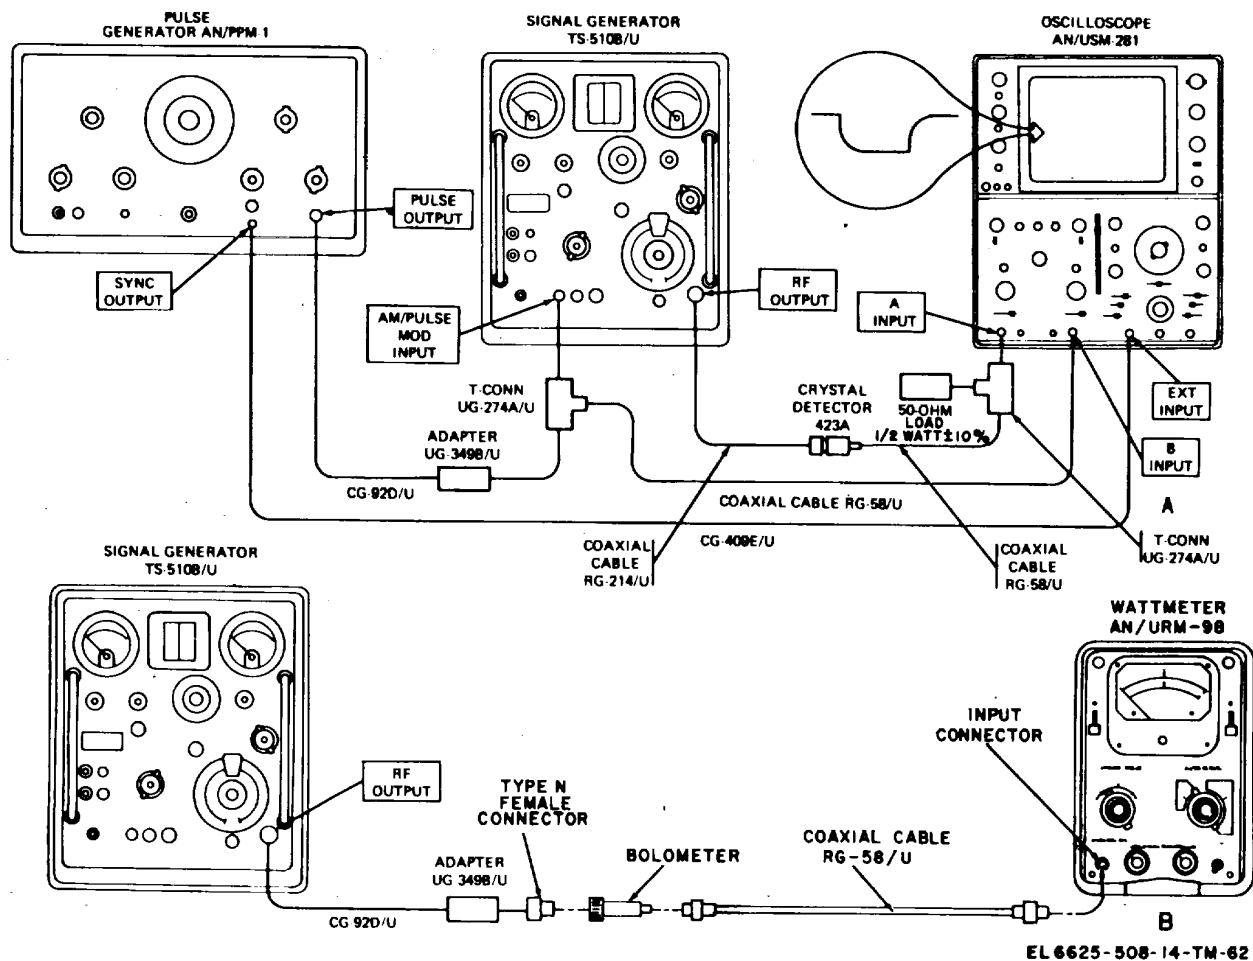

Figure 6-33. External pulse modulation and residual level test connection.
- (2) Oscilloscope AN/USM-281A
- (3) Crystal Detector 423A
- (4) BNCT Connector UG -274A/U (2 each)
(5) AdapterUG-349BIU
(6) Coaxial Cable CG-92D'U
(7) Coaxial Cable CG-409E[U
(8) Coaxial CableRG-2141U
(9) Coaxial Cable RG -581U
- b. Test Connections and Conditions. Equipment will - be connected as shown in A or B of figure 6-33, depending on test requirements.